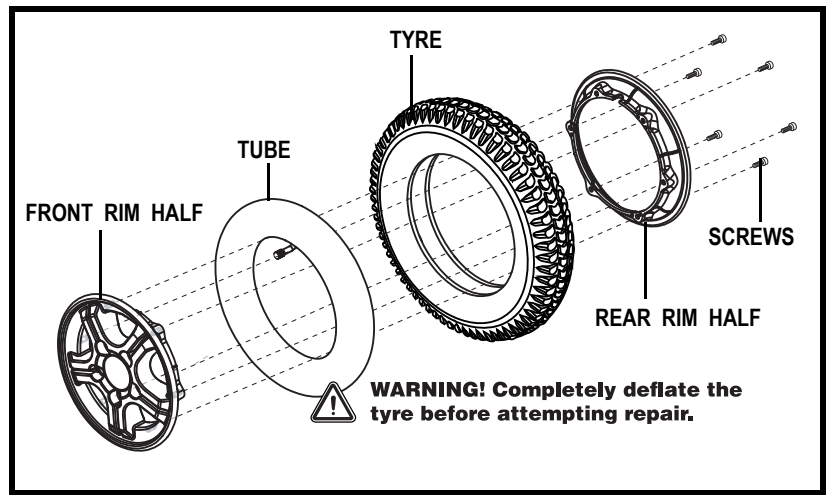

Figure 17. Athena Drive Wheel Disassembled
6. Remove the screws and separate the front and rear rim. See figure 17.
10. Reinstall the five (5) lug nuts and tighten.